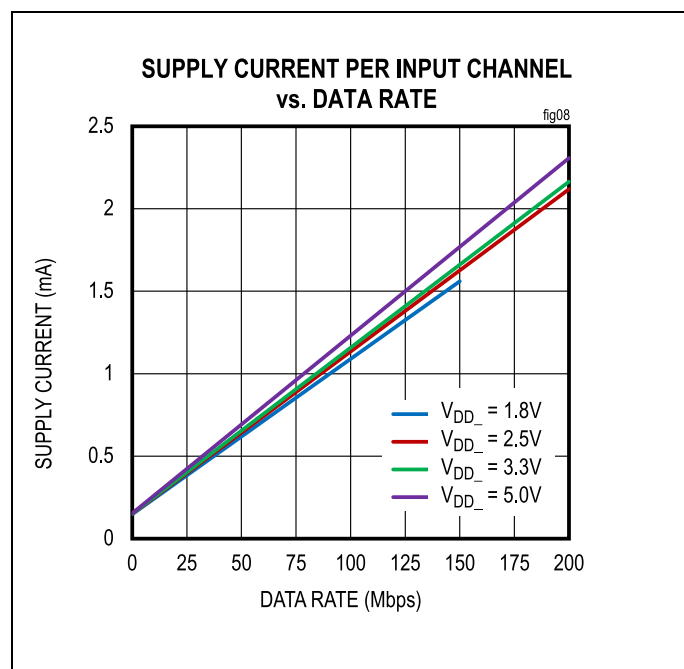
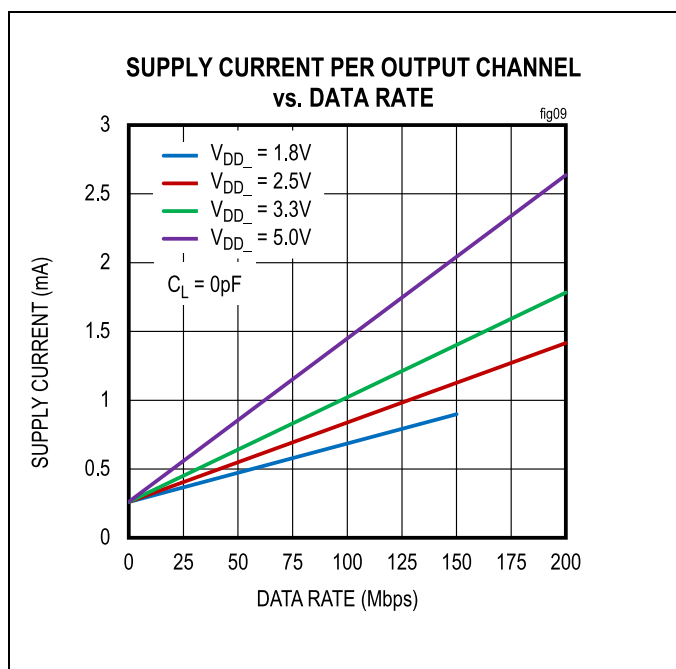

Figure 8. Supply Current per Input Channel (Estimated)
Figure 9. Supply Current per Output Channel (Estimated)
The required current for a given supply ( $V_{DDA}$  or  $V_{ddb}$ ) can be estimated by summing the current required for each channel. The supply current for a channel depends on whether the channel is an input or an output, the channel's data rate, and the capacitive or resistive load if it is an output. The typical current for an input or output at any data rate can be estimated from the graphs in Figure 8 and Figure 9. Note that the data in Figure 8 and Figure 9 are extrapolated from the supply current measurements in a typical operating condition.
The total current for a single channel is the sum of the no load current (shown in Figure 8 and Figure 9), which is a function of voltage and data rate, and the load current, which depends on the type of load. Current into a capacitive load is a function of the load capacitance, the switching frequency, and the supply voltage.
- Channel 1 is an output channel operating at 2.5V and 100Mbps, consuming 0.84mA, estimated from Figure 9.
- Channel 2 is an input channel operating at 2.5V and 20Mbps, consuming 0.35mA, estimated from Figure 8.
- Channel 1 is an input channel operating at 3.3V and 100Mbps, consuming 1.16mA, estimated from Figure 8.
- Channel 2 is an output channel operating at 3.3V and 20Mbps, consuming 0.41mA, estimated from Figure 9.
| 4                  | 4/21             | Added automotive-grade devices; updated front page; updated Package Information; moved Dynamic Characteristics MAX2224_C/F before Dynamic Characteristic MAX2224_B/E; added ESD Protection; updated Typical Operating Characteristics; added Functional Diagrams; updated Unidirectional Channels section; added AEC-Q100 Qualification section; updated Figure 6 and Table 3; updated Calculating Power Dissipation section; updated Figure 8, Figure 9, Table 4 and Table 5; updated Product Selector Guide and Ordering Information | 1-2, 4-7, 9-11, 13-14, 16-21 |